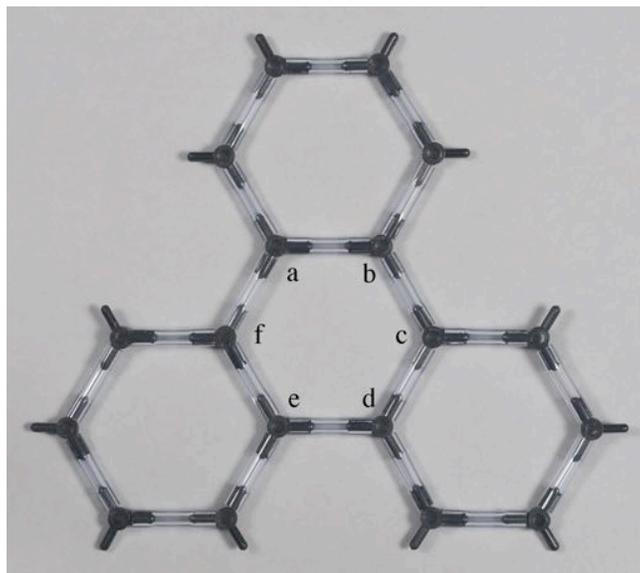

Fig 4 Three new rings.
2. Attach four atoms to pegs a and b of the hexagon to form another hexagon. Repeat with atoms c and d and then e and f. Fig. 4 shows the result of adding more atoms.